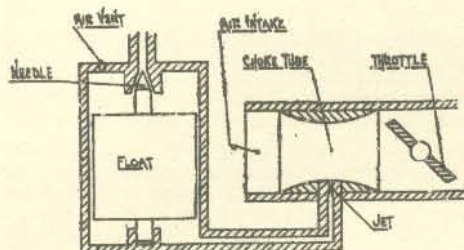
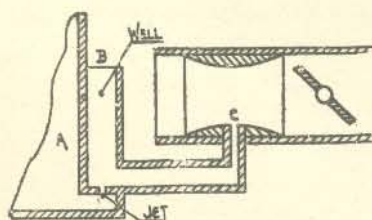
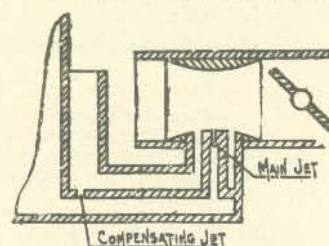
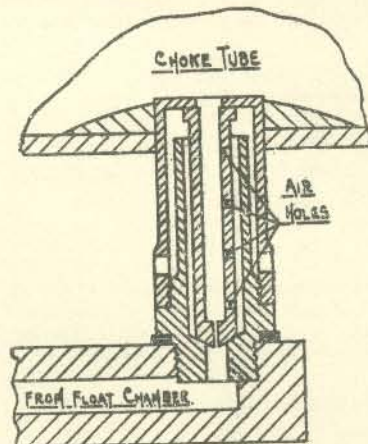

FIG. 4.—“Simple” carburettor.
FIG. 6.—Principle of compensating jet.
FIG. 7.—Zenith compensation.
FIG. 8.—Diffuser compensation.
Fig. 4 shows a simple type of carburettor. The float, needle and needle seating control the level of petrol in the carburettor, allowing the petrol to flow in when the level is low, and shutting it off when the level reaches the top of the jet. When the engine is on its inlet stroke the pressure in the inlet pipe is lowered, sucking petrol through the jet and air through the choke tube at a rate depending on the sizes of these components and the pressure difference between the inlet pipe and the atmosphere. In addition to regulating the flow of air, the choke tube increases the speed of the air, at a point where it passes the jet, sufficiently to break up the petrol into a fine spray. The throttle regulates the amount of mixture passing to the engine, so controlling the speed and power of the engine.
(b) *“Zenith”*.—Fig. 6 shows an arrangement in which the jet does not open directly into the choke tube, but into a U-tube. One end of this U-tube (B) is open to atmospheric pressure, whilst the other end (C) is under the pressure prevailing in the choke tube, the float chamber (A) also being under atmospheric pressure. When the engine is not running the
Fig. 7 shows the compound jet arrangement used in the Zenith carburettor (Meadows engine). Petrol is drawn into the choke tube via two concentric tubes, the central one forming the main jet (which is of the type shown in fig. 4) and the outer one fed with petrol from the "compensating jet" (which is of the type shown in fig. 6). The jets and choke tube are of suitable sizes to form a suitable mixture at any speed: if speed rises, the mixture produced by the main jet gets richer whilst that produced by the compensating jet gets weaker, the combined mixture from the two jets together remaining practically constant throughout the speed range of the engine.
- (c) "Diffuser"—Referring again to fig. 6, if the opening of B to atmospheric pressure is completely blanked off, fuel is drawn from the jet solely by the lower pressure at C, i.e. the carburettor behaves as in fig. 4 and the mixture gets too rich as engine speed rises, instead of too weak. There must, therefore, be some degree of opening of B to the atmosphere which will result in an unvarying mixture strength at all engine speeds: this principle is used in the Solex carburettor fitted to the 750 watt Norman-Lyon set, fig. 8, showing the arrangement of the jet. As the level in B falls, successive holes are uncovered which admit air: their size and position is such that the mixture is kept constant.